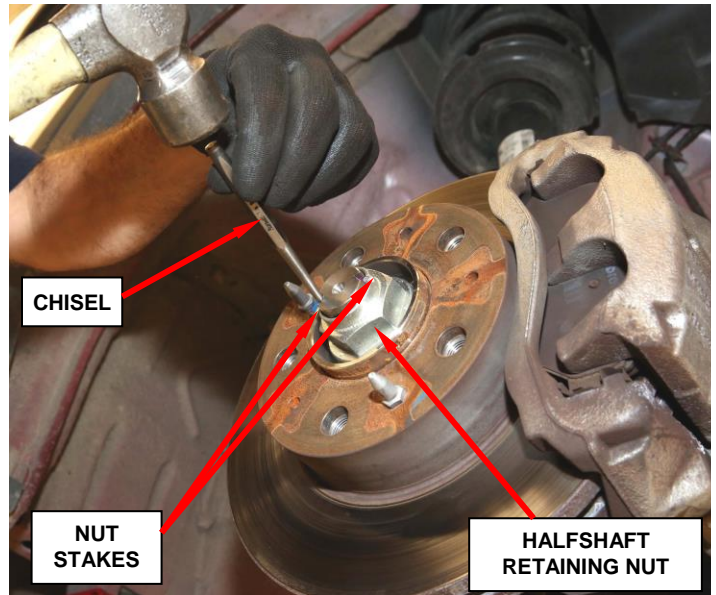

Figure 22 – Unstake Halfshaft Retaining Nut
17. Unstake the two stakes on the right and left halfshaft retaining nuts (Figure 22).